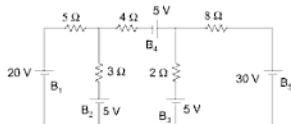

Fig. A1-22
- Out of Mesh and Nodal analysis, which method will require least number of equations to solve the network in Fig. A1-22. Write the equations in matrix form following the method requiring least effort.